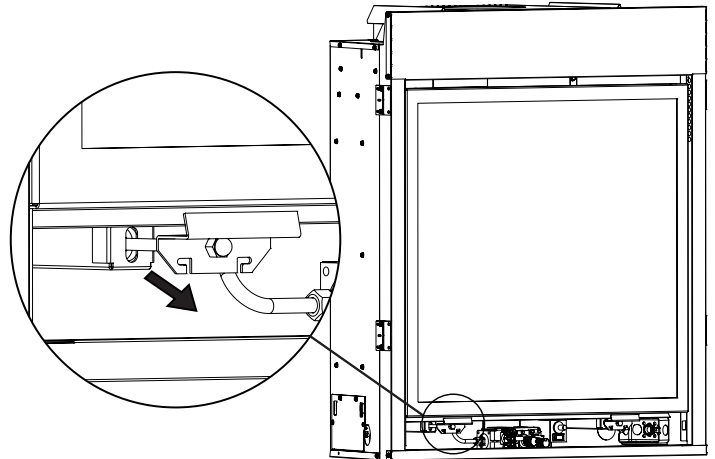

Figure 6
2. Undo two latches at the bottom of the firebox assembly. See Figure 6.